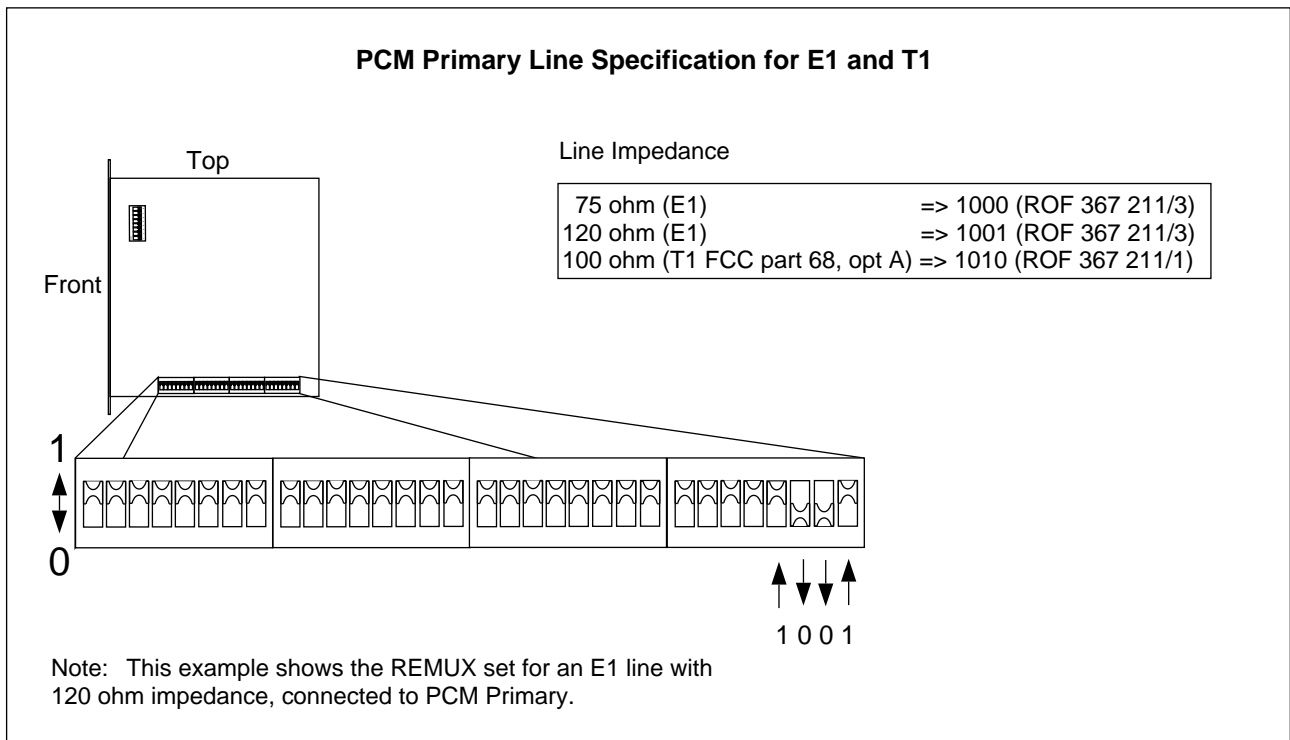

Figure 4-24. Settings for the PCM Primary Line Specification, E1 and T1
- If impedance is used (for E1 transmission, and T1 Federal Communications Commission [FCC] Part 68, Option A), see Figure 4-24 on page 4-43.